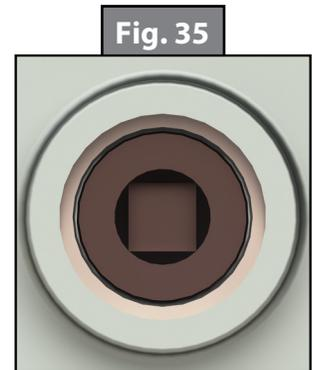

Fig. 35
3. Insert the $\frac{3}{8}$ " drive ratchet into the port (Fig. 35).